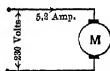

FIG. 12. Motor connected to 230-volt source.
**Prob. 25-1.** What resistance must the motor of Fig. 12 have if it takes 5.2 amperes when starting on a 230-volt line?